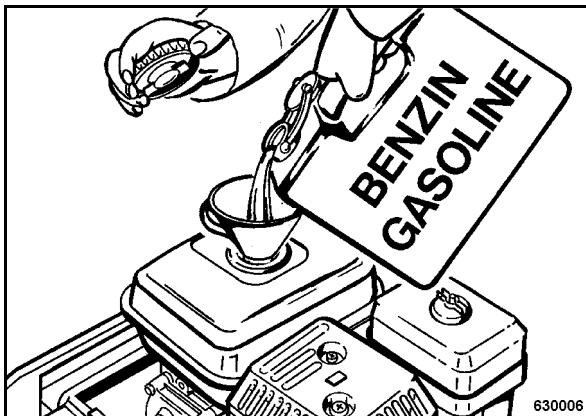

Fig. 33
- Clean the area around the filler cover, unscrew the filler cover (Fig. 33).